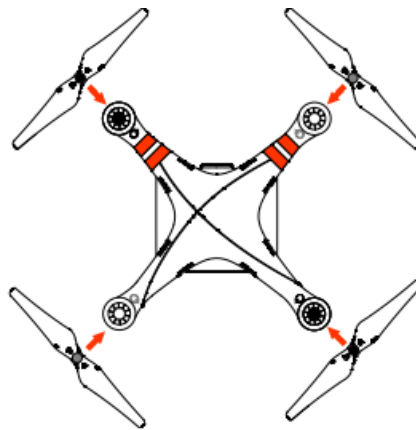

Figure 2-2
2. **(Figure 2-2)** Prepare the two grey nut propellers and two black nut propellers. Make sure to match the black nut propellers with the correctly marked black dot motors. Tighten the propellers according to the fastening instructions.